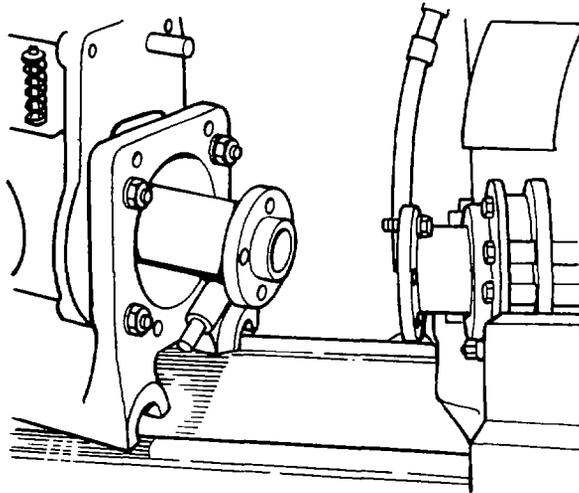

Fig. 111 — Mounting Pump on Test Stand
1. Mount the pump on the calibration test stand (see fig. 111).